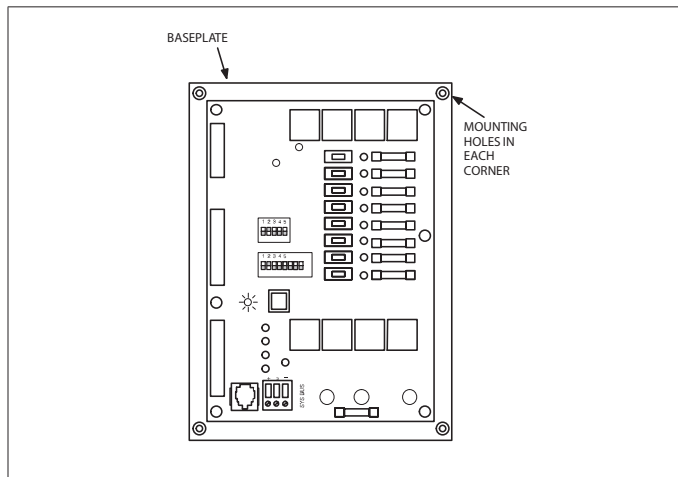

Figure 2. NTC1 Network Thermostat Controller (A113) Mounting Hole Locations
2. Use NTC1 baseplate as template to mark location of four mounting holes at desired installation site (see "Figure 2. NTC1 Network Thermostat Controller (A113) Mounting Hole Locations"). The NTC1-1 may be installed in any direction.